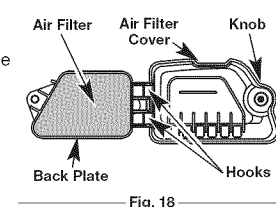

Fig. 18
1. Open the air filter cover. Unscrew the knob on the left side of the cover. Swing the cover out (Fig. 18).
2. Remove the air filter (Fig. 18).
6. Replace the filter (Fig. 18).
7. Make sure the back plate is correctly positioned (Fig. 18).
8. Swing the air filter cover closed and tighten the knob (Fig. 18).